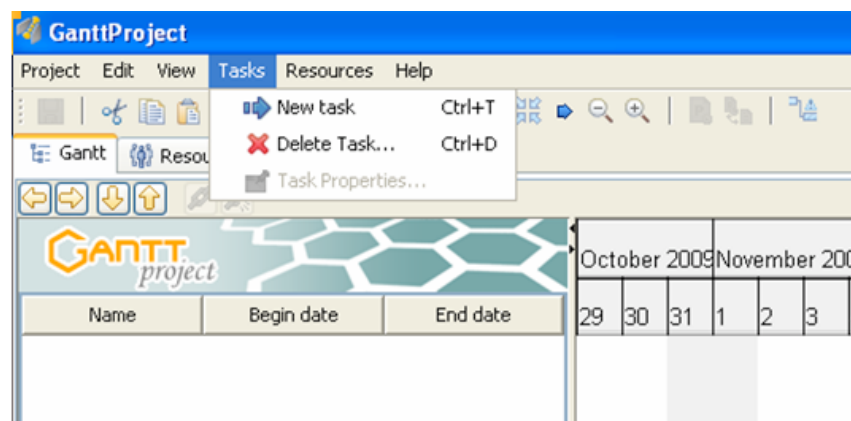

Figure 4.12: Adding a new task.
2. In the tool bar, click the New Task button to add a task to the tasks pane as shown in figure 4.12.